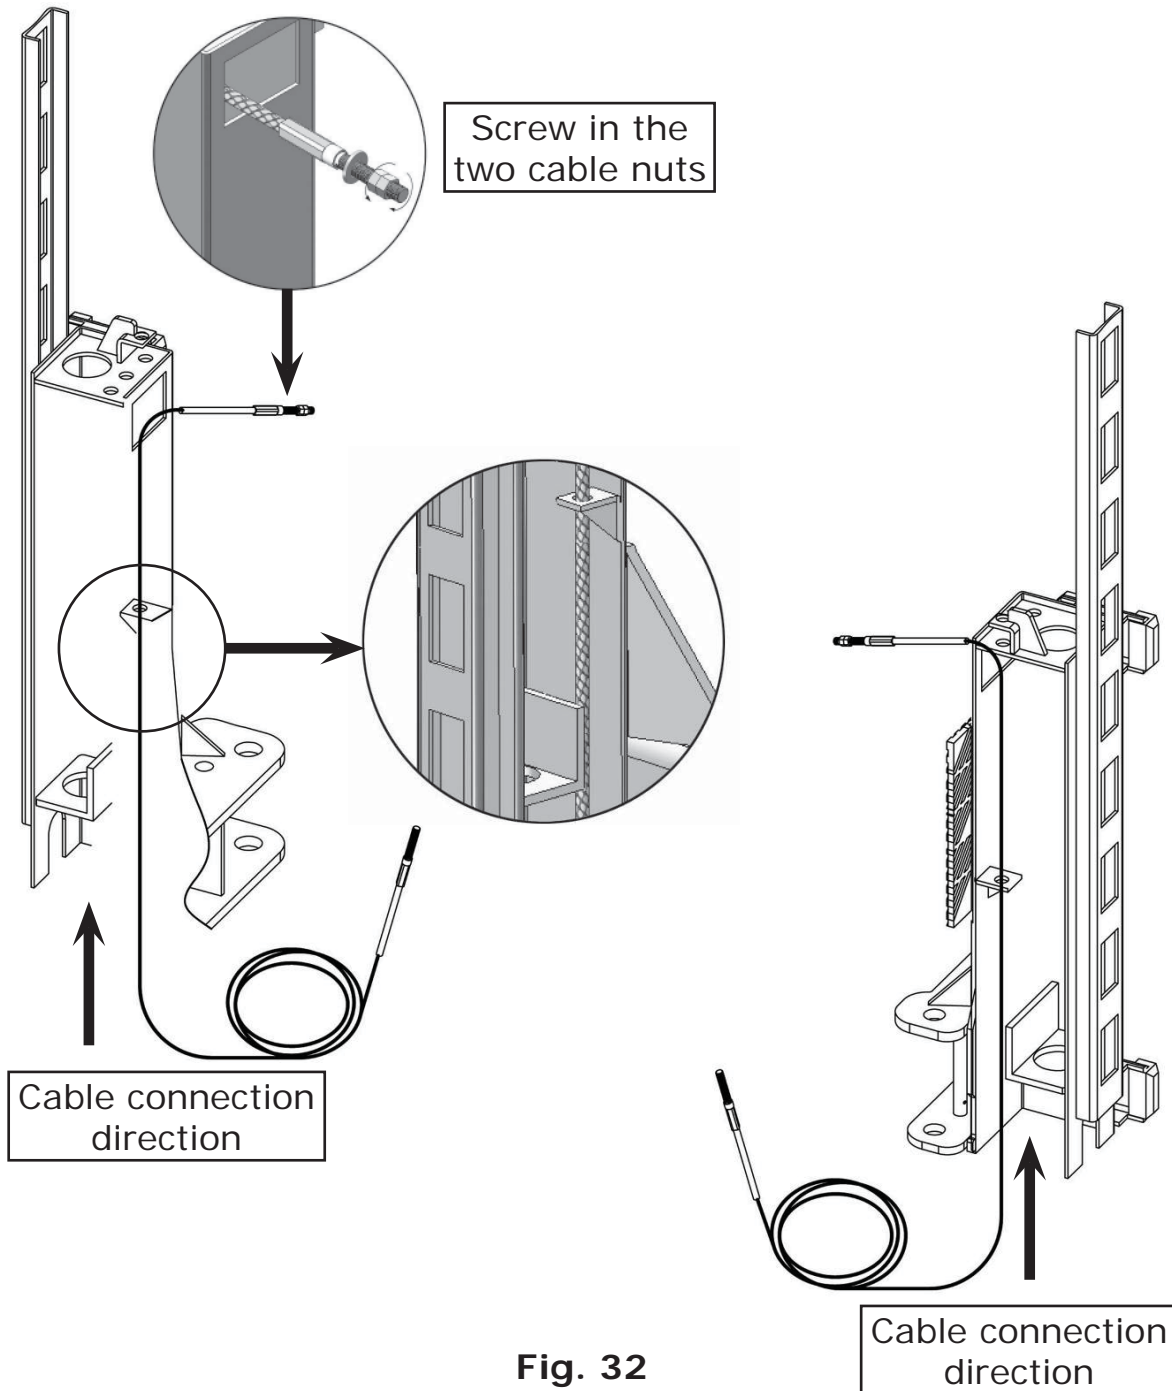

**Fig. 31**
2. **Low setting cable connection (See Fig. 31).** For a ceiling height less than 3750mm (147 5/8")